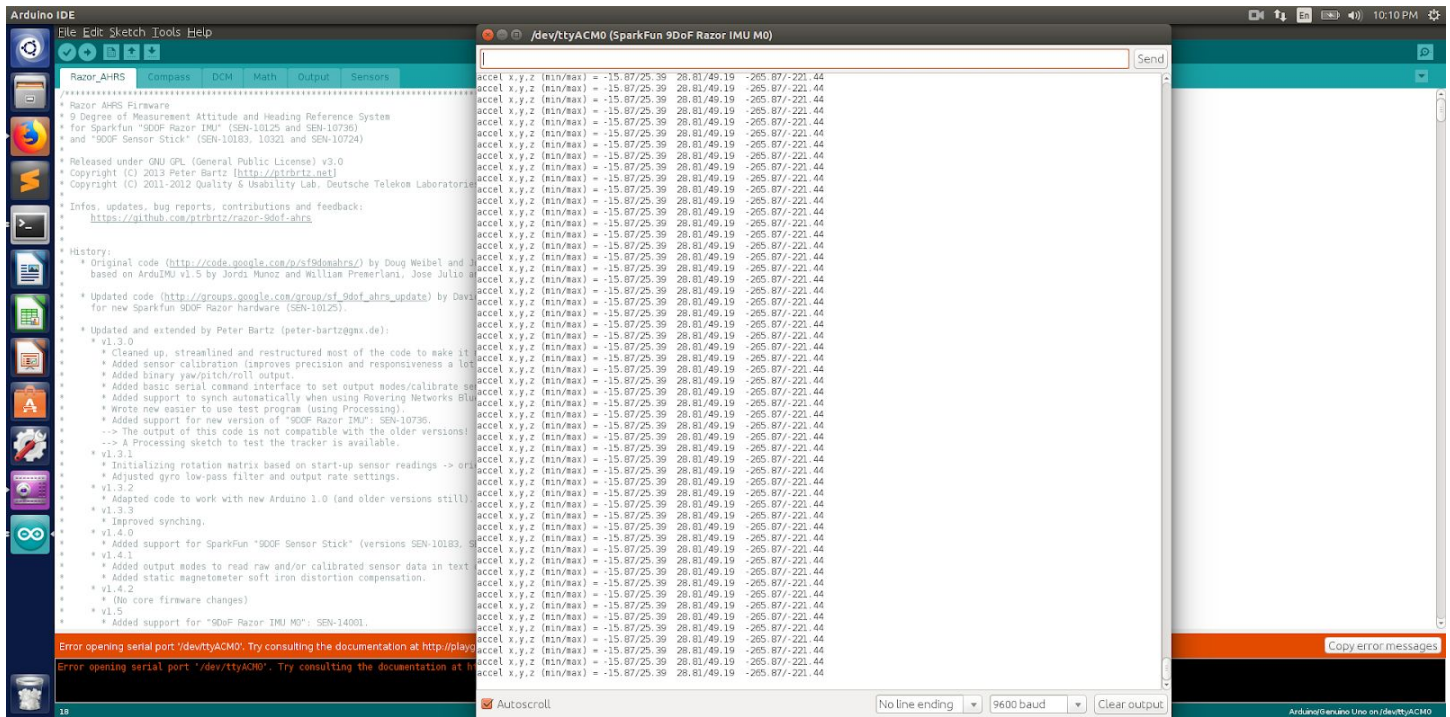

Fig 5: Accelerometer readings from IMU
- 2) Then #oc starts giving only accelerometer readings as shown in Fig 5 . The I held the board with pointing down with x-axis and then slowly rotating the it about x-axis to the maximum x value.